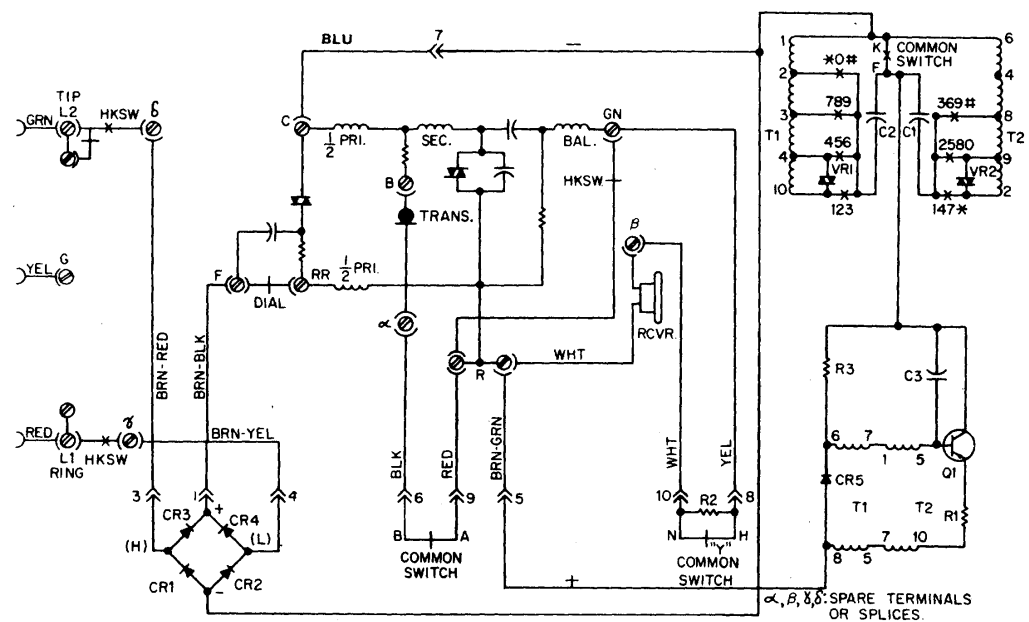
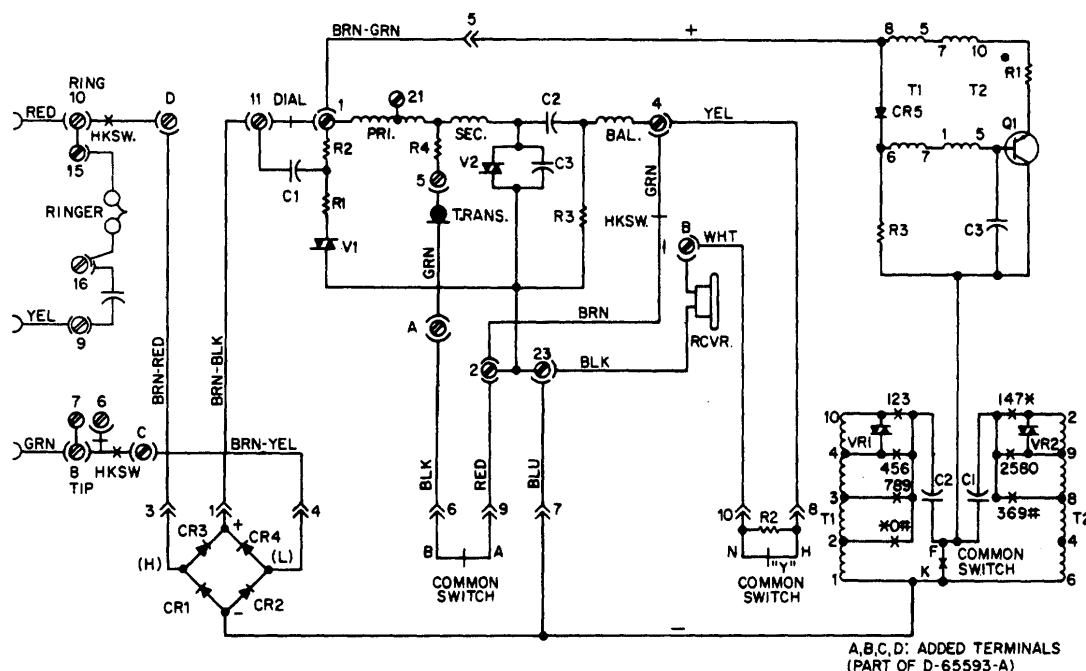

Figure 3. Schematic Diagram of HD-840102 Auxiliary Touch Calling Adapter Connected to WECO 500 Series-Type Telephone.
Figure 4. Schematic Diagram of HD-840102 Auxiliary Touch Calling Adapter Connected to NC-Series Telephone.
2.03 Telephone instruments manufactured by other North American suppliers, including ITT (Kellogg), LEICH, North, Northern, present Stromberg-Carlson, and Western Electric, employ the standard WECO 500 Series-type telephone set (Figure 3) configurations, in which the primary winding of the induction coil is divided into two sections. By placing one section in series with each side of the line, this circuit arrangement provides a point for ANI ground mark application that is both a standard transmission network terminal (the transmitter connection) and a reactive as well as resistive, midpoint of the transmission network bridge.
2.04 Figure 4 shows the circuit arrangement of the auxiliary Touch Calling adapter, as applied to an NC-series telephone instrument. Use of a common switch spring pile with separate contact sets to key the oscillator, pad the receiver, and mute the transmitter requires a larger cord connector and two additional conductors in the line cord. As with the standard Type 12C Touch Calling unit, isolation of the receiver-padding contacts permits their insertion in the induction coil side of the path for proper operation with amplified-receiver handsets. In other respects, the application is the same as for the present adapter.
2.05 Figure 3 shows the interconnection of the auxiliary Touch Calling adapter and a WECO 500 Series-type telephone. In this case, loop characteristics may change. Better regulation of the DTMF oscillator supply potential may be attained by connecting the oscillator leads to terminals C and R (corresponding to terminals 1 and 2 or 23 in Figure 4) rather than across the entire transmission network bridge, which are terminals C and R in Figure 3. Although the potential drop across the shorter path provides a reduced